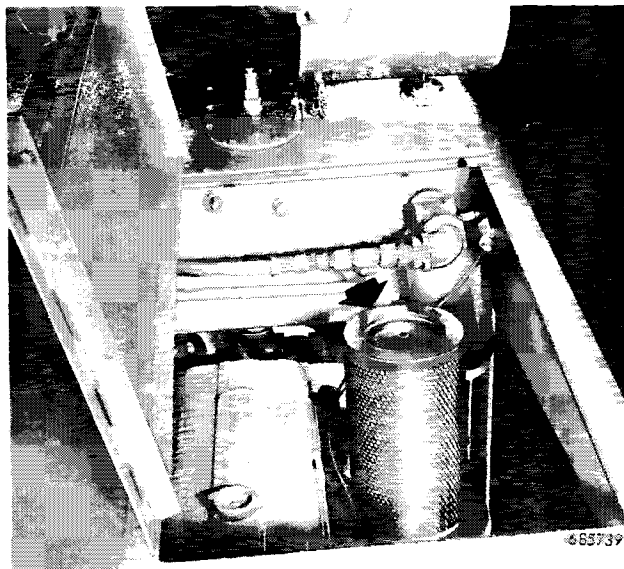

Figure 2
2. To remove the element, raise the access cover on the hood, release the three cover retaining clips and lift off cover. See Figure 2.